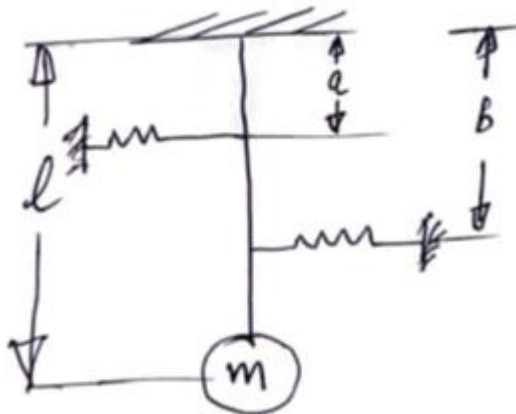

Figure 2b
- b) Determine the natural frequency of the system shown in figure 2b.